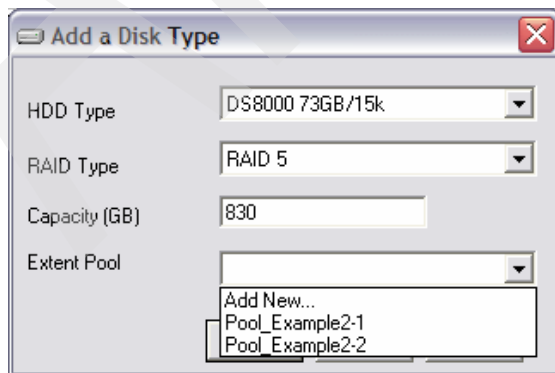

Figure 4-59 Creating an extent pool to share between the two workloads
- f. On the iSeries Disk tab, click the **Add** button. In the Add a Disk Type window (Figure 4-59), in the Capacity (GB) field, enter the needed capacity of the new extent pool. For Extent Pool, select **Add New**.